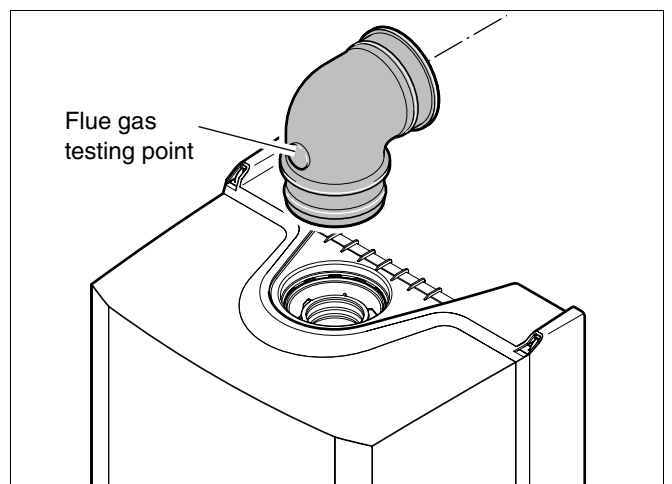

fig. 20 Horizontal flue turret with flue gas testing point
- Fit the horizontal flue turret (fig. 20) onto the appliance flue connector.
- Push the assembly through the wall and slide the turret onto the flue connector. Refer to figure 20. Ensure that the turret is fully entered into the socket on the boiler.